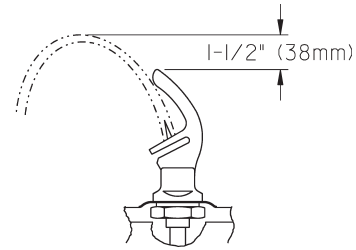
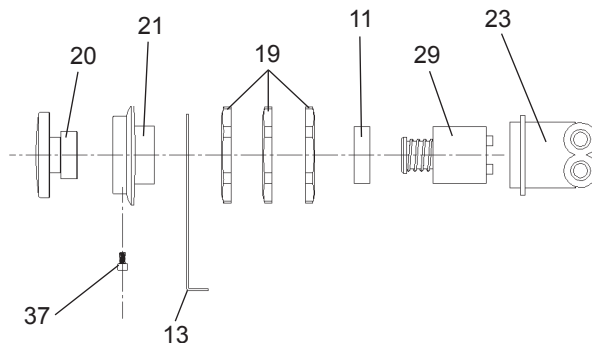
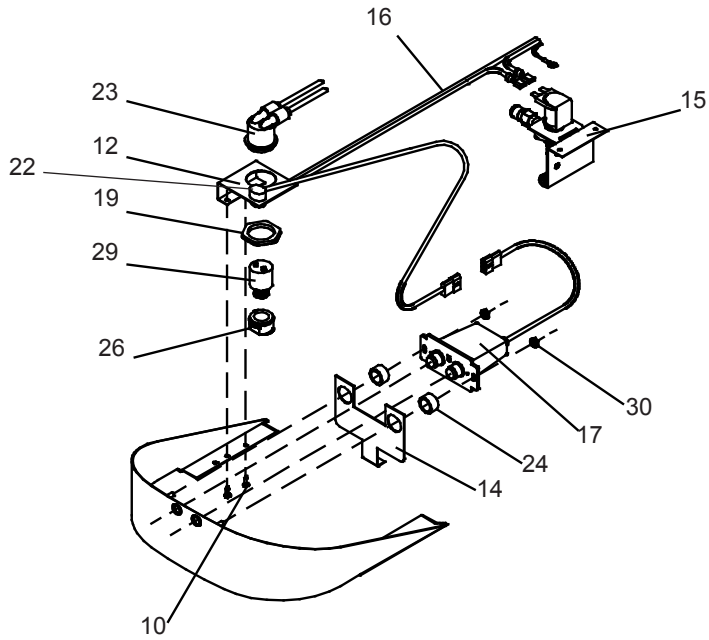

Figure 14 – Stream Height
Figure 20 – Push Button/Regulator Assembly
Figure 21 – Electronic Sensor Fountain Assembly
14. **Check stream height from bubbler.** Stream height is factory set at 35-40 PSI. If supply pressure varies greatly from this, please do the following. For **Pushbutton units only**, adjust the screw on regulator (Item 29) by using a small screwdriver through the small hole in the push button (Item 20). See Figure 20. Clockwise adjustment will raise stream height and counterclockwise movement will lower stream height. For **Electronic sensor units only**, remove bottom access panel and turn adjustment screw on the regulator (Item 29 - Fig. 21). Clockwise adjustment will raise stream height and counterclockwise movement will lower stream height. For best adjustment, stream height should be approximately 1-1/2" (38mm) above the bubbler guard. (See Figure 14).
15. **Mount lower panel.** Loosen the two (2) #10-24 x 5/8" (16mm) screws at frame bottom lip. Slide upper tongue of lower panel under lower edge of already installed upper panel. Tighten previously loosened screws securely.